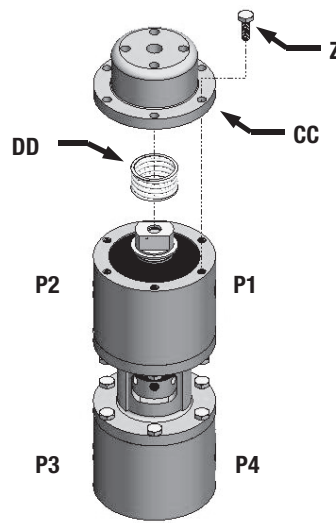

Figure 18
- B. For a VRP-SB-PID-80 (Figure 18), place the Fixed Spring (DD) onto the Spring Nut (T). Secure the Fixed Spring (DD) by fastening the Bottom Spring Cartridge (CC) to the Bottom Body (H) with 6, 1/4-20 x 3/4" HHCS (Z). Torque to 100-110 in.-lbs.